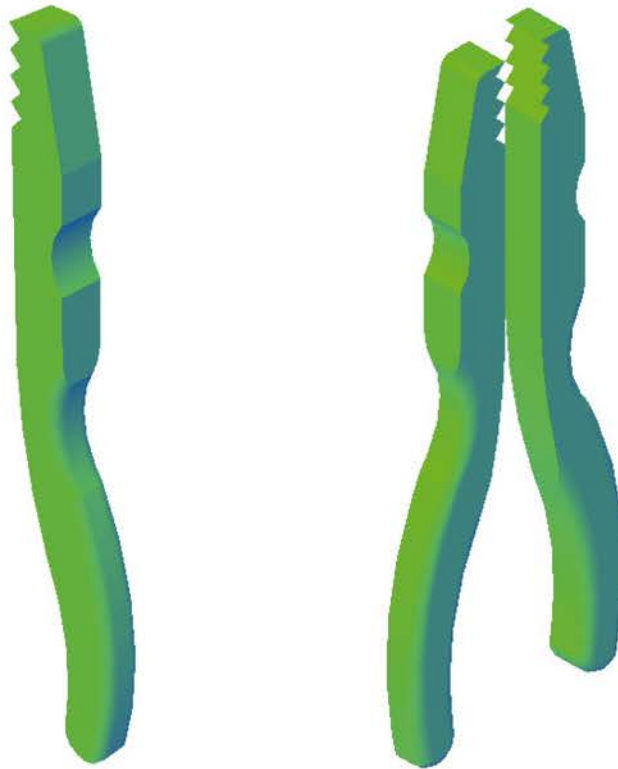

Fig. 11.17 First example SW Isometric – 3D Mirror – before and after Mirror
FIRST EXAMPLE – 3D MIRROR (FIG. 11.17)
- A **Conceptual** style shading is shown in Fig. 11.17 (left-hand drawing).
The result is shown in the right-hand illustration of Fig. 11.17.